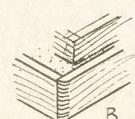

Fig. 3—Corner joints
Two rim pieces for covering the remainder of the sides will be required, $1\frac{1}{4}$ ins. wide. These extend from the bottom of the baseboard to the glued-on top piece. A similar strip is glued across the bottom, to complete rimming in the whole board. The corner edges of these are neatly rounded off, as in detail (B) in Fig. 3.